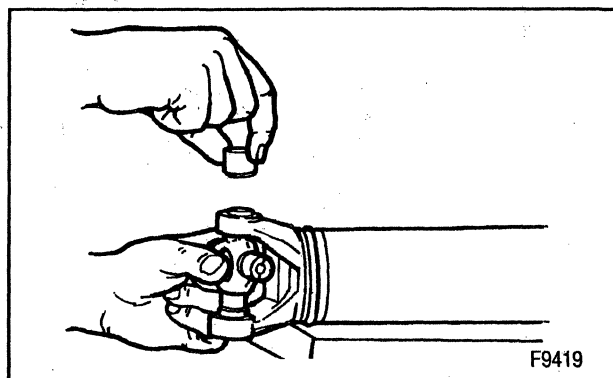

Figure 17—Aligning the Trunnion Between the Bearing Cups
- Make sure that the trunnions are started straight and true into both bearing cups (figure 17).
- With the trunnion seated in the bearing cup press the bearing cup into the yoke until it is flush with the yoke ear (figure 17).